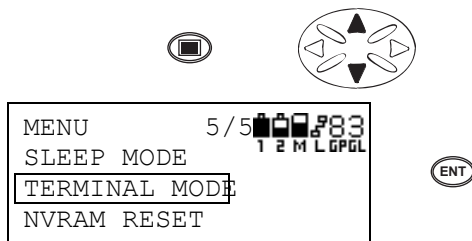

Figure 3-145. Initiate Menu Mode, Scroll to Terminal Mode, Press Enter
- Press the **menu** key to enter the menu mode. Press the **up/down cursor key** to select **TERMINAL MODE** and press **ENT** (Figure 3-145).